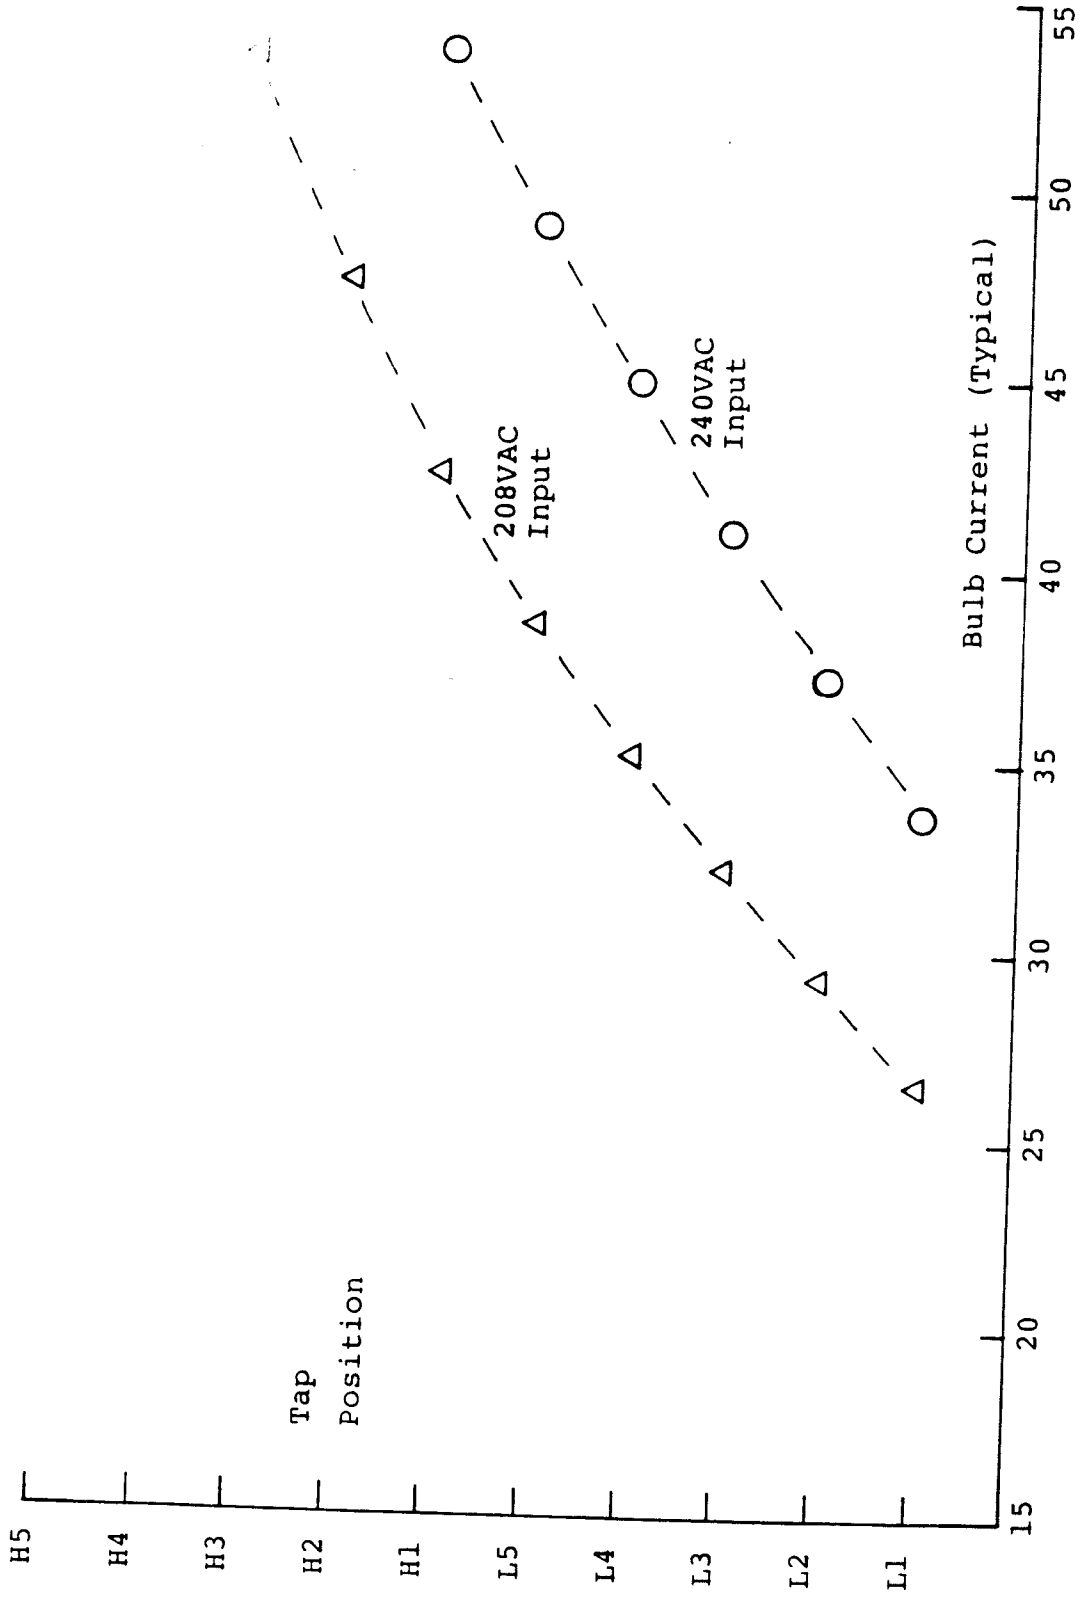

Figure 4-4. Tap Position Versus Typical Bulb Current (XPS-10)
5. The current range of the XPS-10 supply is approximately 30 to 50 amps while the XPS-16 output varies from approximately 40 to 65 amps. Figures 4-4 and 4-5 show typical bulb current versus tap positions for the two supplies.